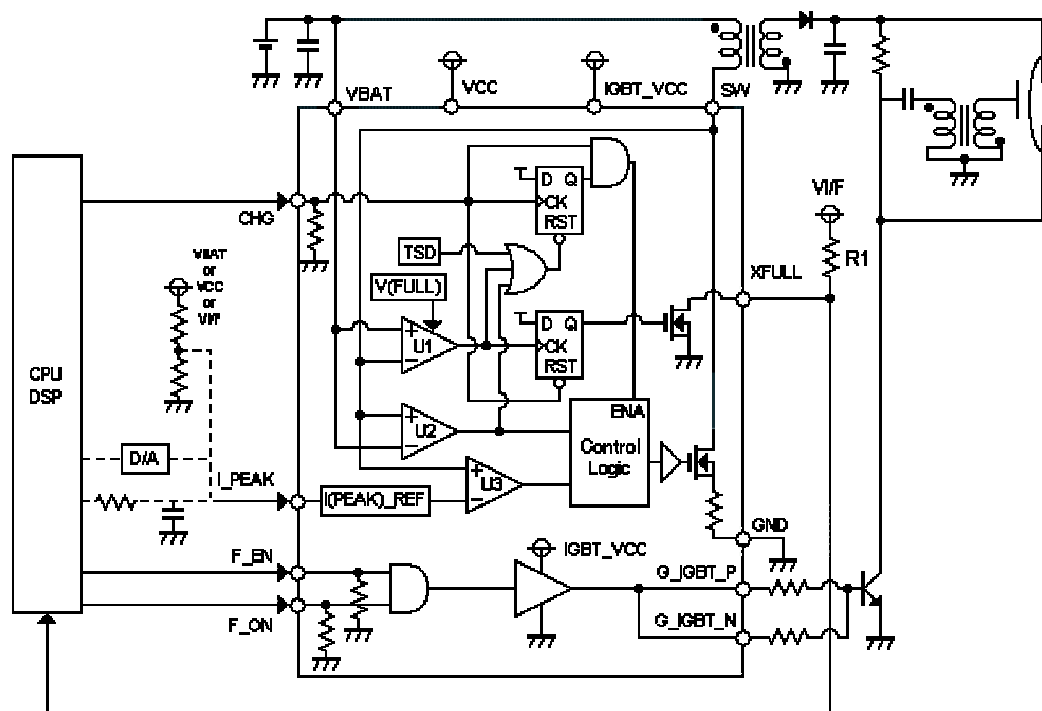
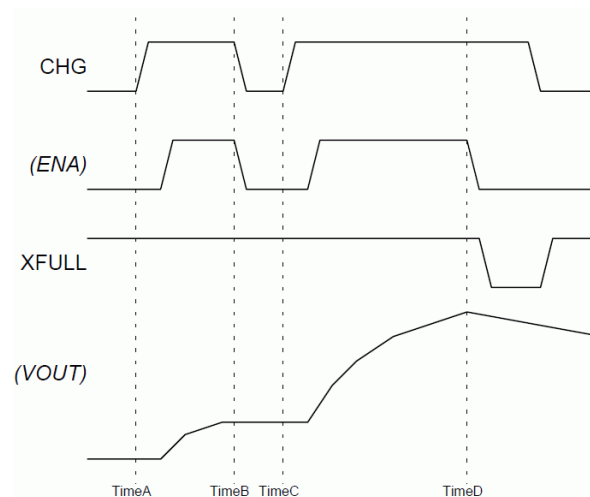

Figure 1. Application Circuit
Figure 4. Charging Sequence Chart
- Forced stop by inputting a low level at CHG (see B in Figure 4)
- Automatic stop by detecting a full charge. VOUT reaches the target value (see D in Figure 4).
When the host inputs the high-level signal into CHG, the voltage of VCC and VBAT must meet the recommended range; VBAT is from 1.4 V to 12 V, VCC is from 2.7 V to 5.5 V. It is acceptable to start recharging after a forced stop controlled by CHG (see C in Figure 4).
When the charging operation is complete, the TPS65563A drives the charge completion indicator pin, XFULL, to a low level. A controller can detect the status of the device as a logic signal when it is connected through a pullup resistor (R1) (see Figure 1). The only way to reset the indication at XFULL is to input a low level into CHG (see Figure 4).